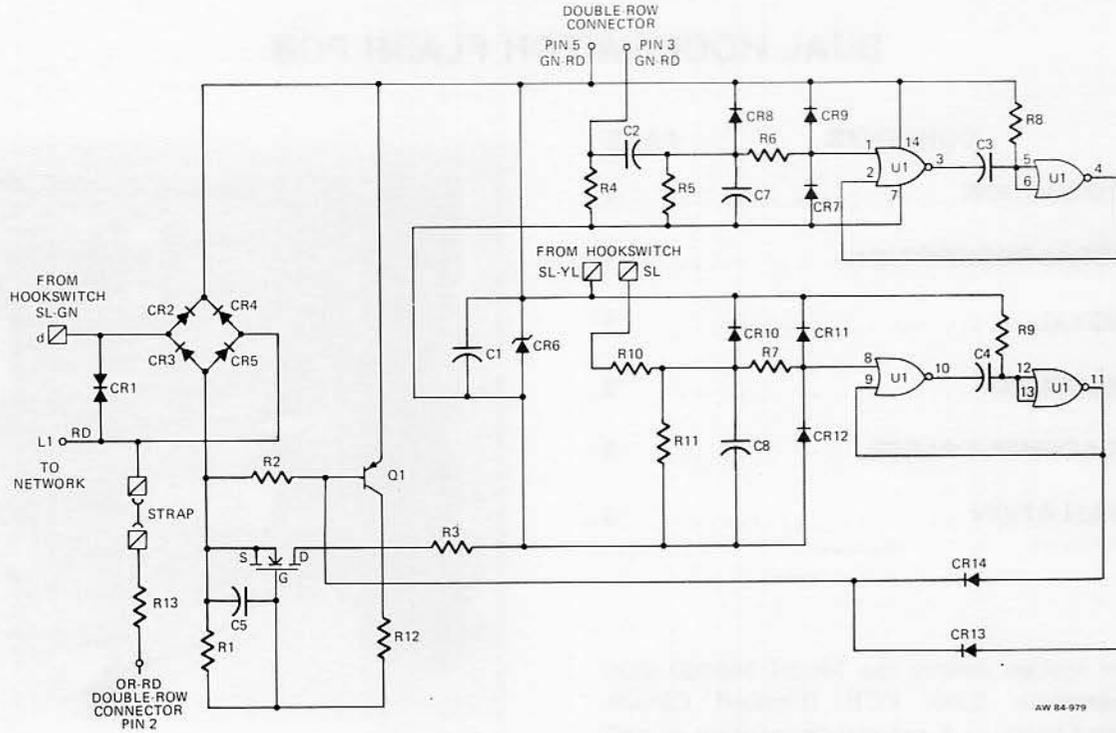

Figure 2: Model 186260 Dual Hookswitch Flash PCB, Schematic
2.01 The Model 186260 PCB is a dual hookswitch flash circuit for use in ITT single-line telephones used with a PBX. The circuit provides a precise time period for hookswitch flash operation and hookswitch line disconnect. (See Figure 2.)